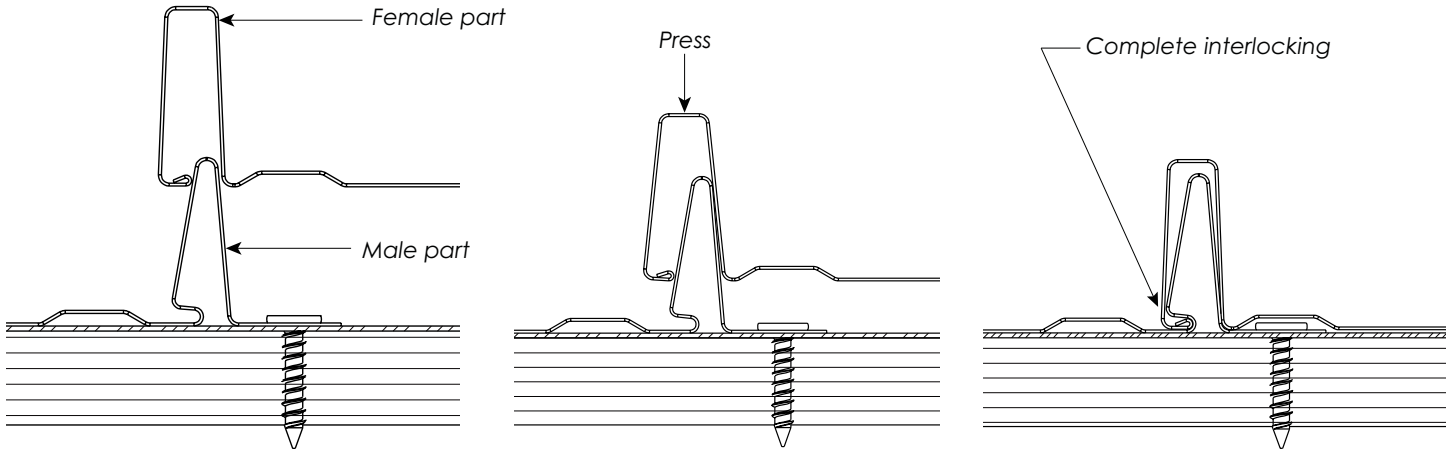

Figure 11.a | Interlocking of the panels
- The panel has a male and a female side that snaps into each other. (Figure 11.a)
- Place the panel slightly offset, press the female part of the panel onto the male section of the previously installed panel, until complete interlocking. (Figure 11.b)
- Slide the panel up so that the panel enters in the opening of the moulding and the 180 degree fold is hooked to the front flashing (410).